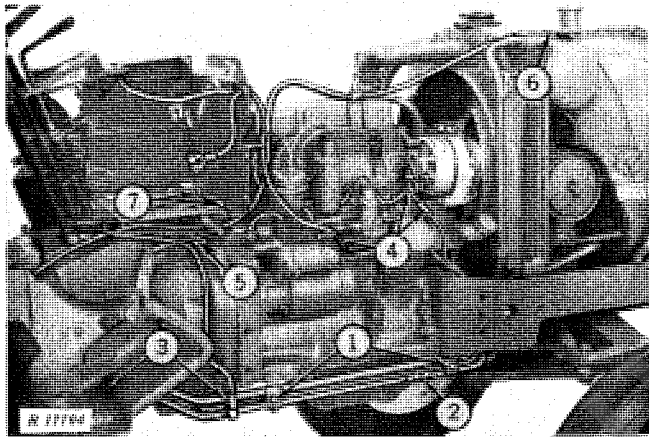

Fig. 1-Right-Hand Separation Procedures
1. Remove clamps securing hydraulic oil pipes to engine (Fig. 1).